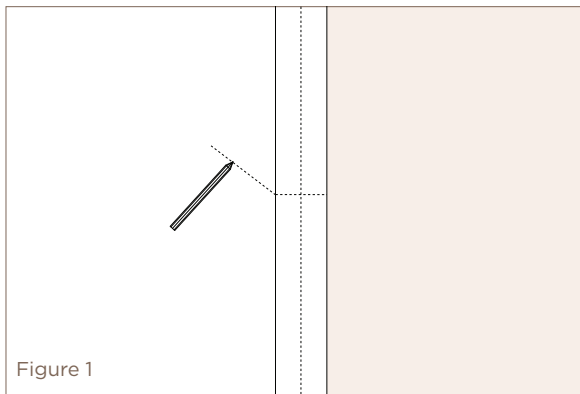

Figure 1
2. Mark a vertical line along the centre of your door edge. Figure 1.